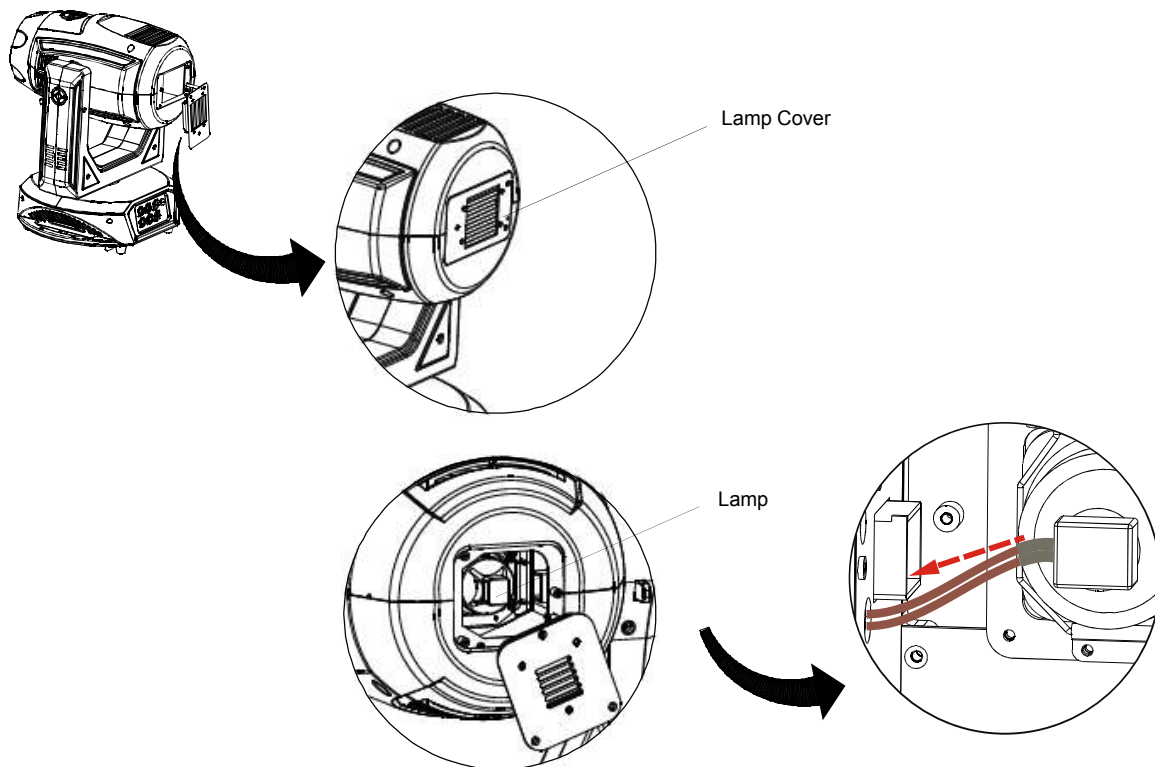

Figure 5: Lamp Cover - Lamp Removal
- Step 3. At rear of luminaire head, as illustrated in Figure 5: